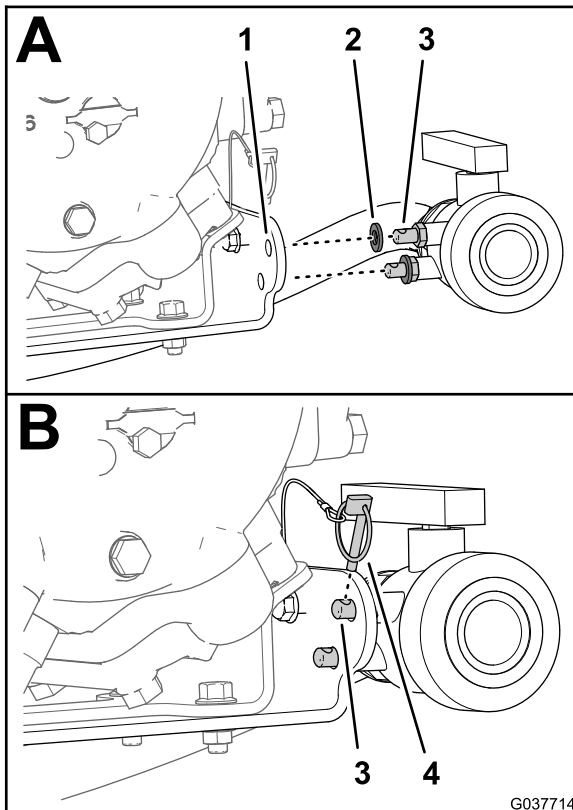

**Figure 81**
1. Assemble the cable of the lynch pin, flange-head bolt (5/16 x 1 inch), and flange locknut (5/16 inch) that you removed in step 4 of Preparing the Machine (page 5) to the hole 8 mm (5/16 inch) in the rear, outboard corner of the sprayer-pump bracket (Figure 80 and Figure 81).